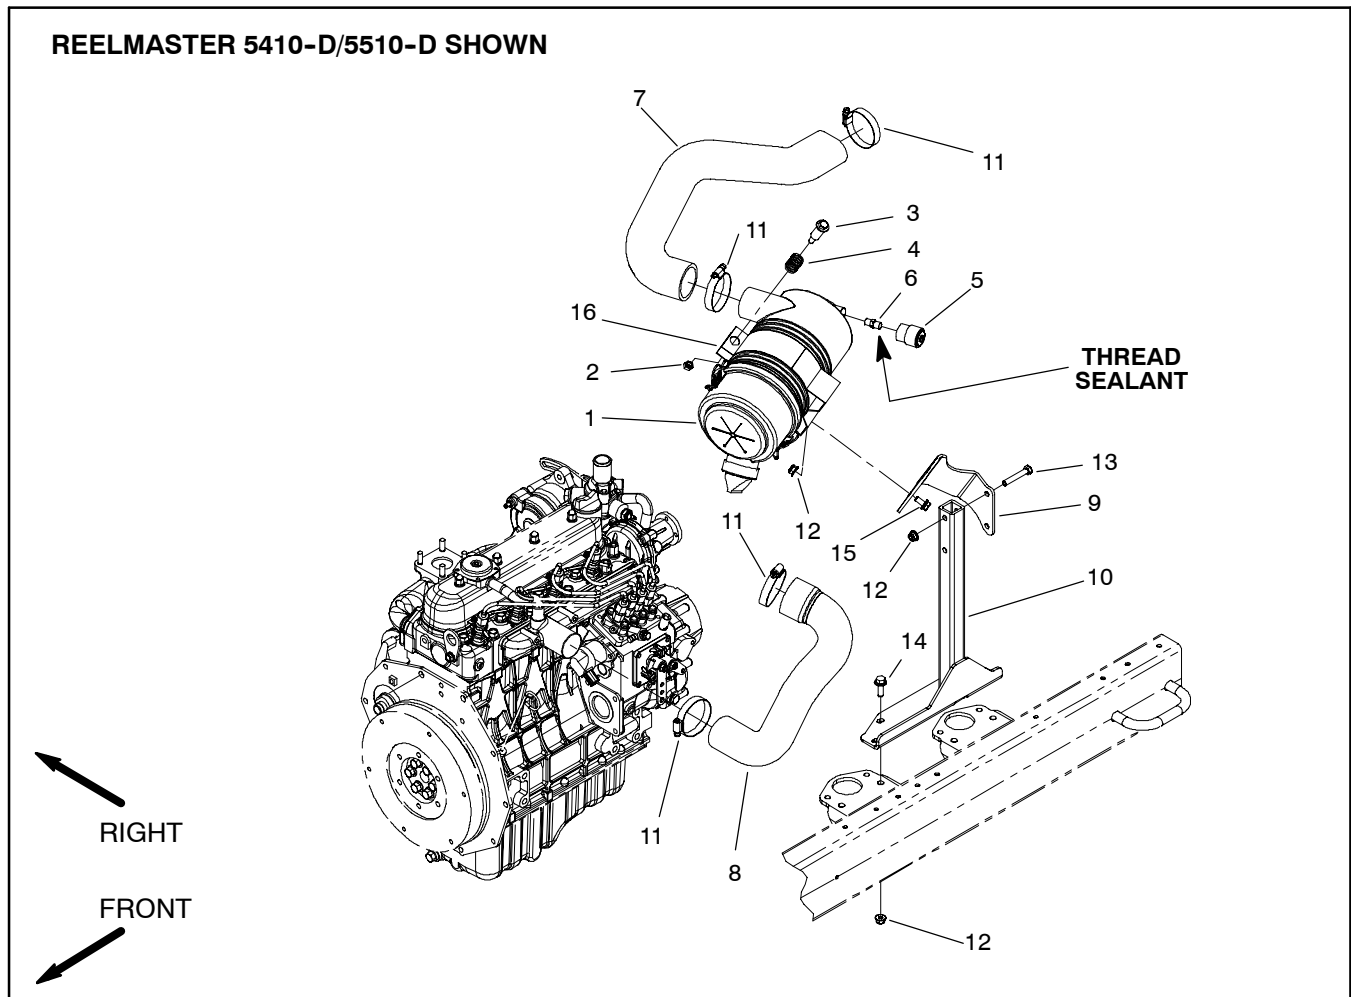

Figure 3
Removal (Fig. 3)
2. Remove air cleaner components as needed using Figures 3, 4 and 5 as guides.
Installation (Fig. 3)
1. Assemble air cleaner system using Figures 3, 4 and 5 as guides.